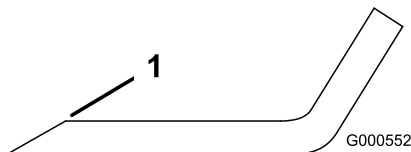

Figure 100
1. Use a file to sharpen the cutting edge at both ends of the blade (Figure 100).
Note: If the blade is not balanced, file some metal off the end of the sail area only (Figure 100).